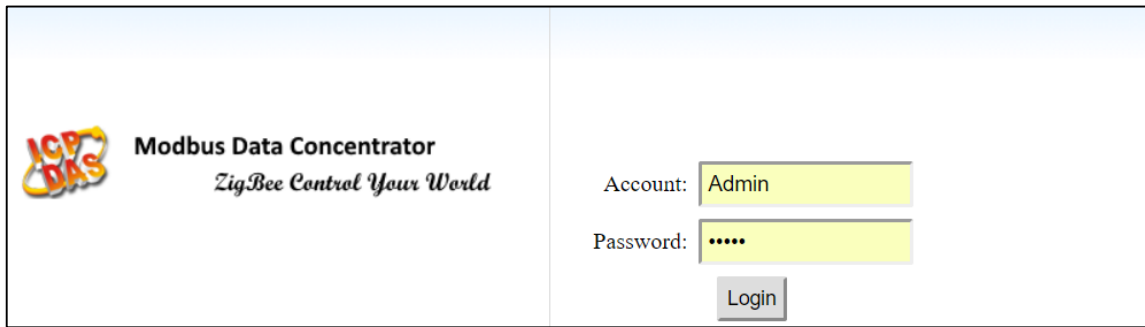

Figure 2.4 Product Login Page
Step1 Once the PC and MDC-211-ZT are in the same LAN, user can login the MDC-211-ZT by entering the IP address on Web browser (IE11/Chrome/Firefox, resolution 800 x 600 or more is recommended), the login screen is shown as Figure 2.4: